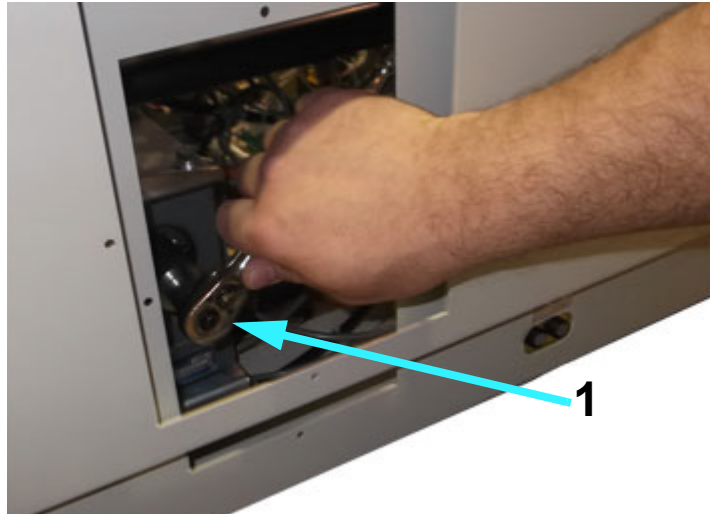

Figure 5-10. Socket and Ratchet
- 10 Using a 9/16" socket and ratchet (1 in Figure 5-10), the table can now be manually raised or lowered for service.